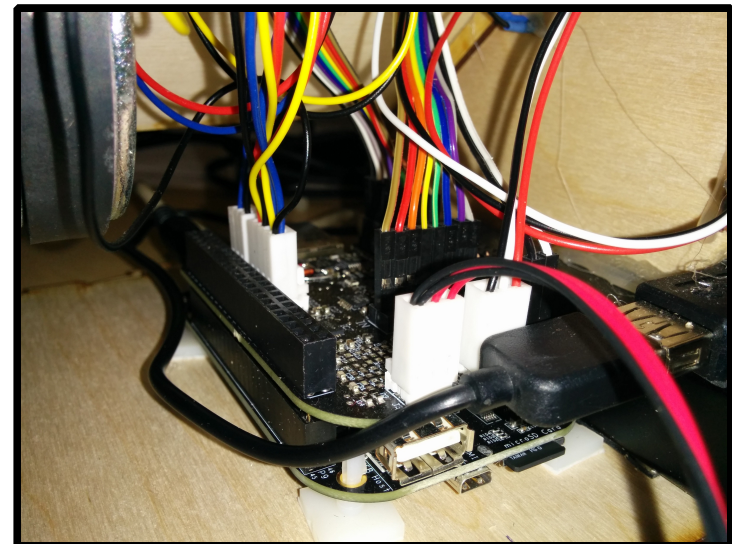

Fig. 2 - The BeagleBone Black
- changing the connections to the *BeagleBone Black* [the black board on the bottom of the box, Fig. 2] is a bit more dangerous for the life of the instrument. Anyway, we don't forbid hacking here. Have fun;